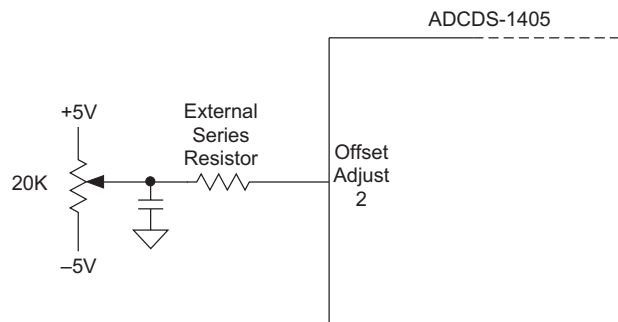
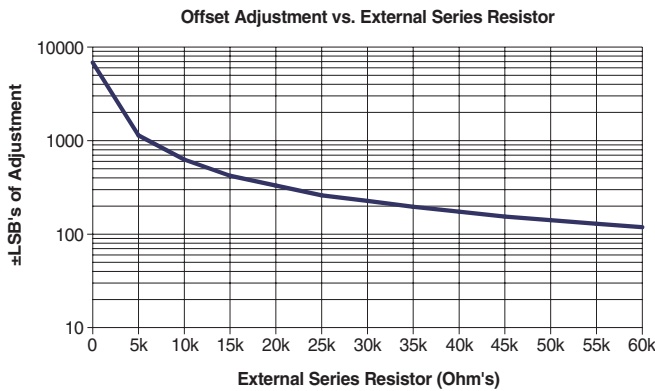

Figure 3. Offset Adjustment Circuit
Figure 6. Offset Adjustment vs. External Series Resistor
- If using the suggested offset and gain adjust circuits (Figure 3 & 5), place them as close to the ADCDS-1405's package as possible.
Manual offset adjustment for the ADCDS-1405 can be accomplished using the adjustment circuit shown in Figure 3. A software controlled D/A converter can be substituted for the 20KΩ potentiometer. The offset adjustment feature allows the user to adjust the Offset/Dark Current level of the ADCDS-1405 until the output bits are 00 0000 0000 0000 and the LSB flickers between 0 and 1. Offset adjust should be performed before gain adjust to avoid interaction. The ADCDS-1405's offset adjustment is dependent on the value of the external series resistor used in the offset adjust circuit (Figure 3). The Offset Adjustment graph (Figure 6) illustrates the typical relationship between the external series resistor value and its offset adjustment capability utilizing ±5V supplies.